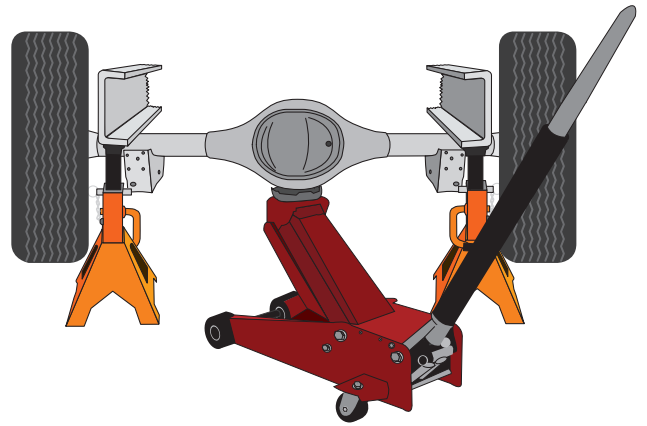

Fig. 2
1. Raise the frame and support the frame with safety stands. Lower the axle as far as it can go (Fig. 2).